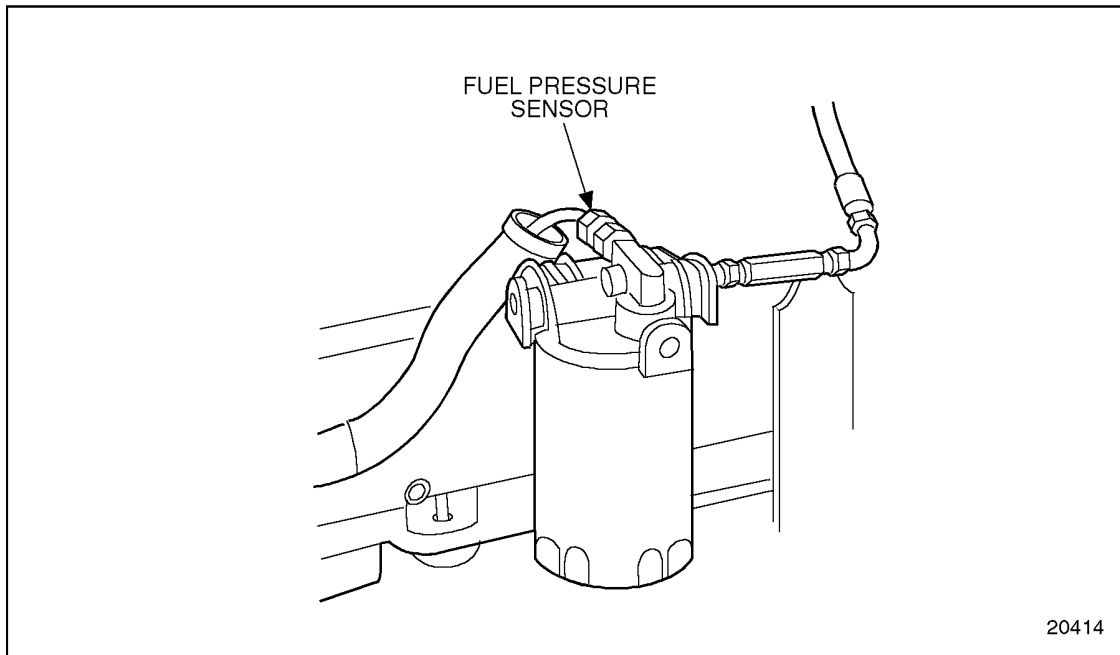
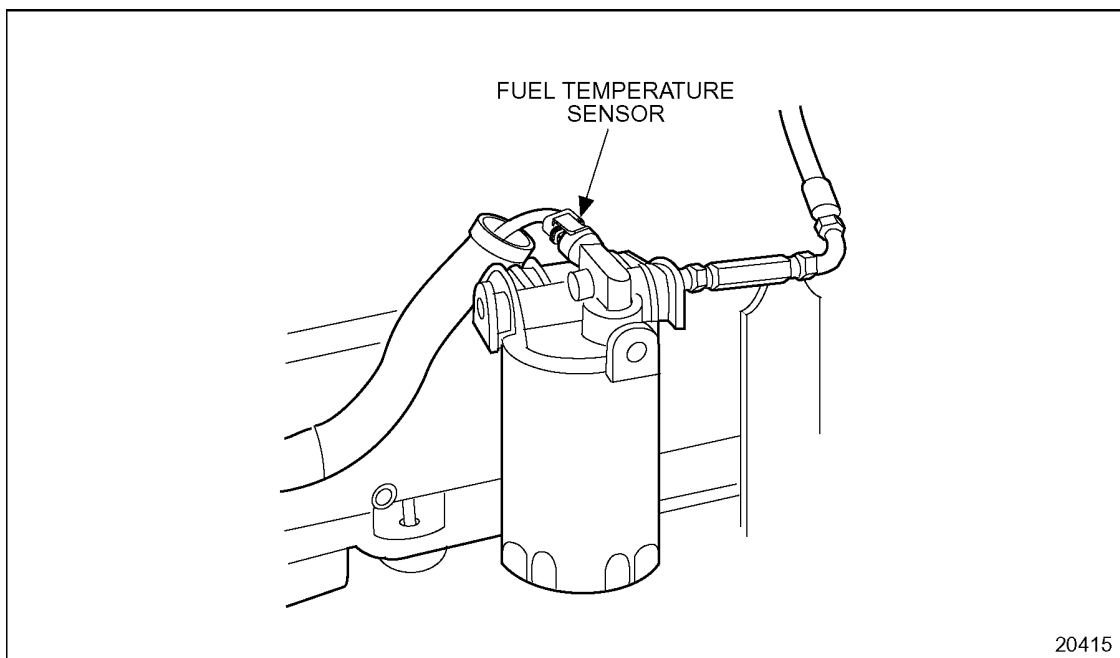

Figure 25-1 Engine Fuel Pressure Sensor
Figure 25-2 Engine Fuel Temperature Sensor
1. Remove either the fuel pressure sensor (FPS) or fuel temperature sensor (FTS) fitting from the secondary filter, if equipped; see Figure 25-1 for FPS, and see Figure 25-2 for FTS.